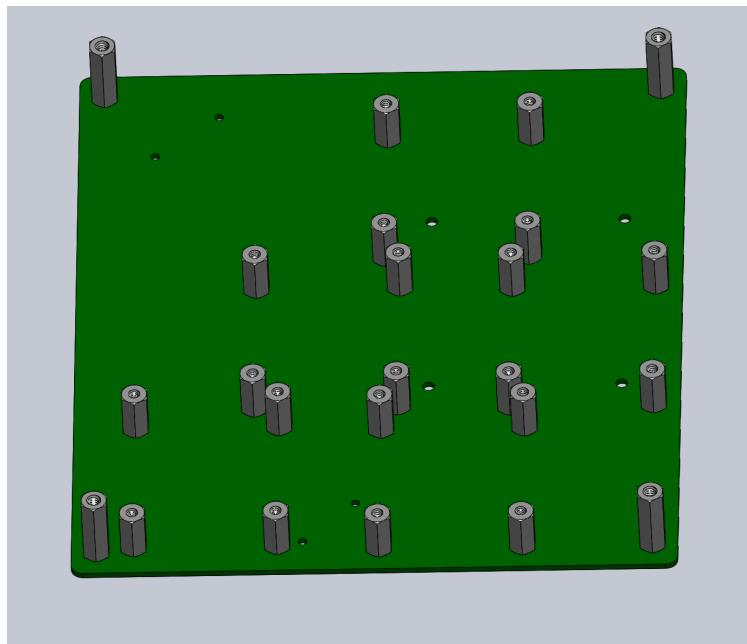

Figure 13: RoboClaw Mounting Standoffs
2. **RoboClaw mounting Standoffs:** On the **BOTTOM** side of the board, attach the twenty #4-40 Standoffs **T5** using screws **B8** as shown in Figure 13. You can identify the RoboClaw mounting holes as the ones that are inside the RoboClaw rectangles on the silk screen.